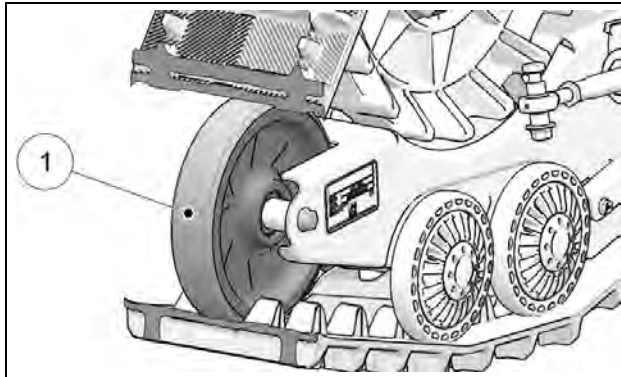

Figure 40
Verify wear on contact band (1) of 200-mm Wheels. The wheel must be replaced if the surface is worn out, cracked or has holes in it. A wheel that is excessively worn will not offer enough support for track guidance. Track guides may also wear prematurely. Figure 40.